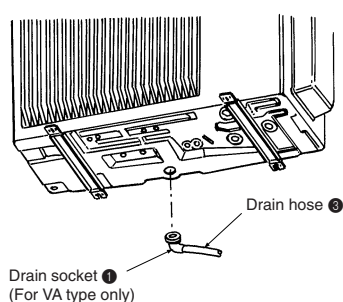

Fig. 4-1
4. Drain piping for outdoor unit (Fig. 4-1)